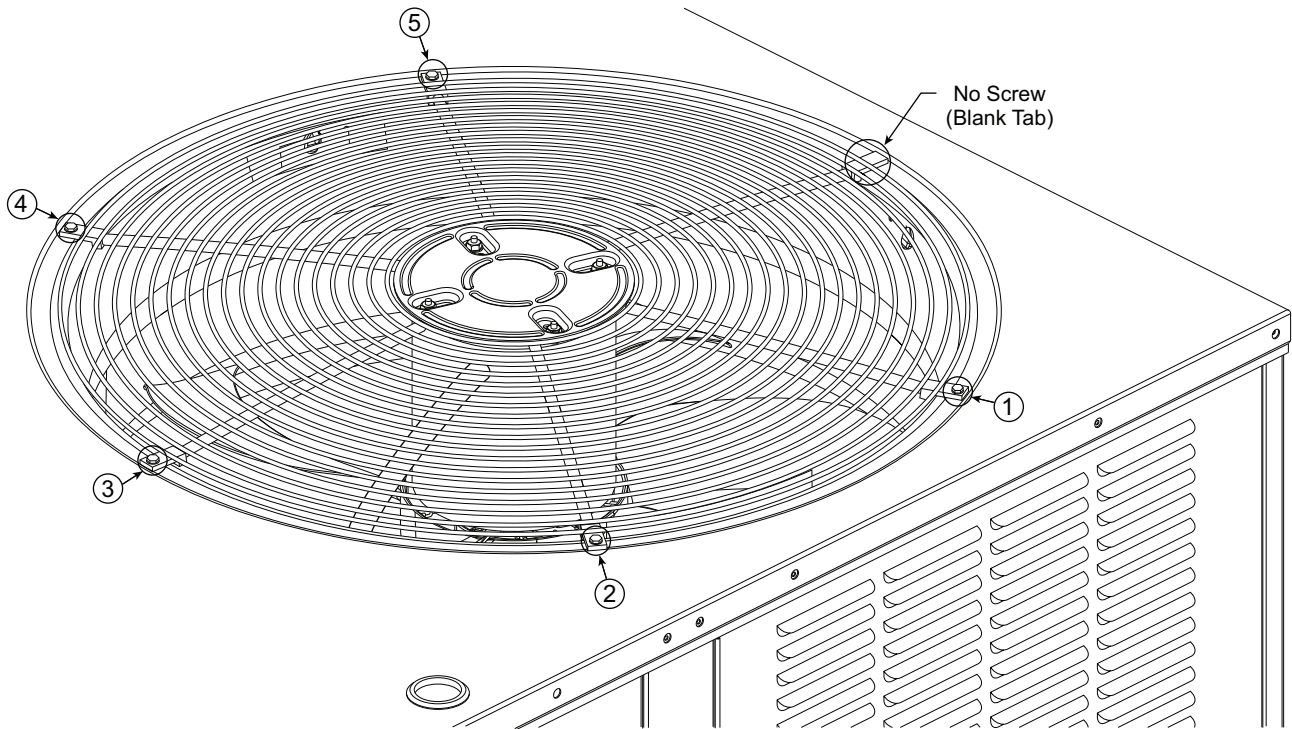

Fig. 34 — Condenser-Fan Assembly — Screw Pattern Sequence
6. Replace condenser-fan assembly. When replacing the condenser-fan assembly follow the screw pattern sequence shown in Fig. 34. The screws must be replaced in the sequence shown in the figure.